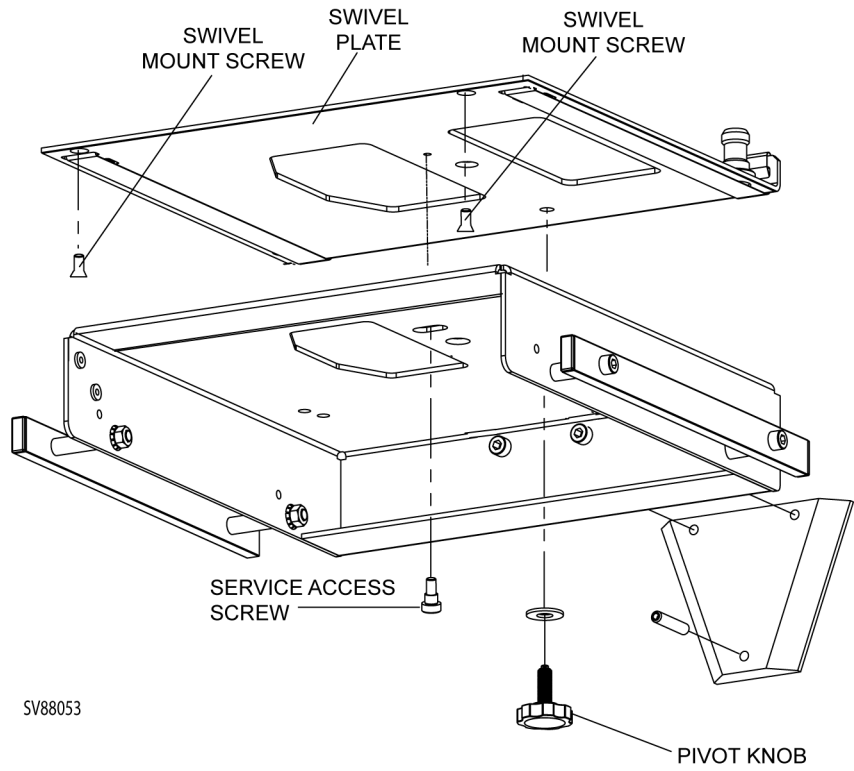

Figure 2 Wall Mount Service Access
- a) Remove the two swivel mount screws that secure the front of core module to the swivel mount. Refer to Figure 2.
3. Remove the unit pivot knob and washer located under the wall mount bracket, then using an allen wrench, remove the service access screw. Refer to Figure 2.